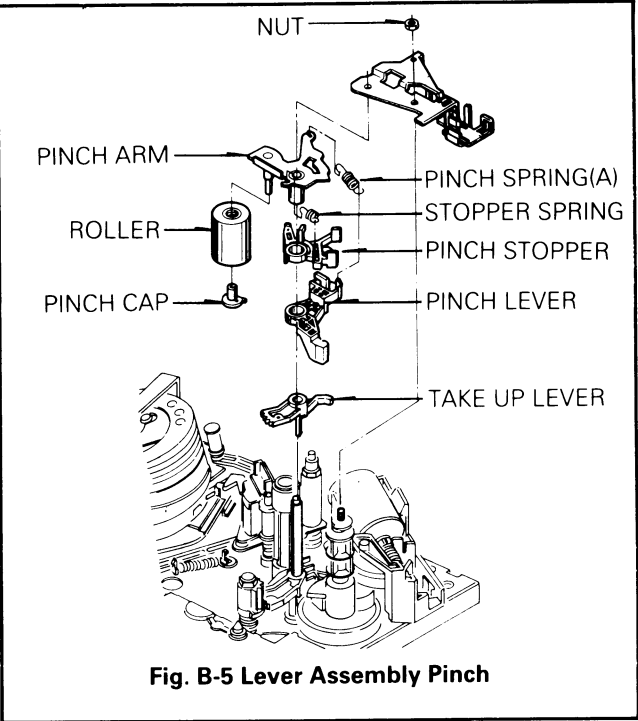

Fig. B-5 Lever Assembly Pinch
5. Pinch Lever Assembly(Fig. B-5)